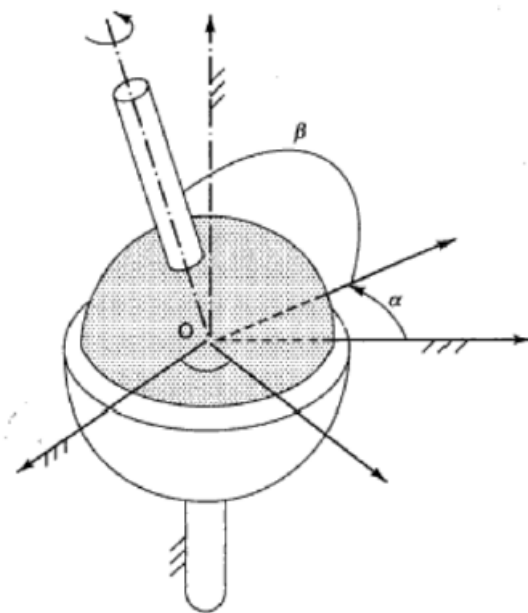

Fig. 1.9 Spherical pair (s)
- The spherical pair (S) as shown in Figure 1.9 is a ball and socket joint that